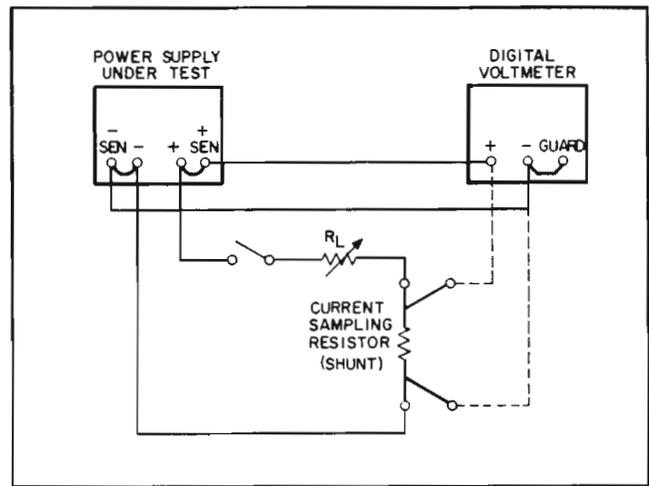

Figure 5-2. Rated Output, Test Setup
- Connect in series across the (+) and (–) terminals of the 5V output a suitable load resistor, a current sampling resistor, and a switch, as shown in Figure 5-2. The load resistor must be of the proper value and of adequate wattage to draw full rated current from the 5V output.
- Connect a full load resistance and a digital voltmeter across the (+) and (–) terminals of the 5V output, as shown in Figure 5-2.